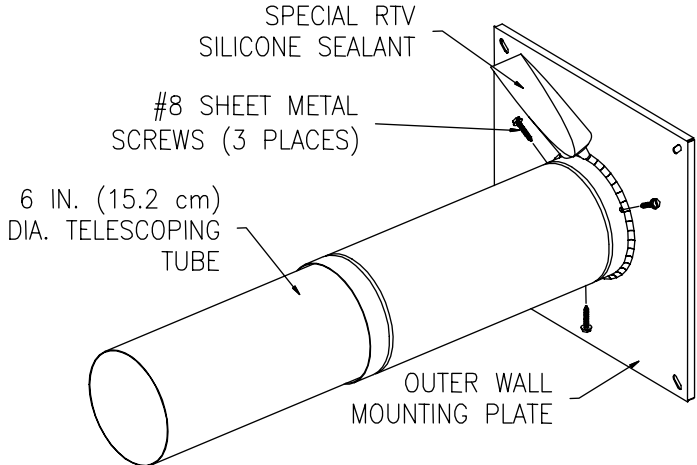

Figure 12.
- 8. Extend the six (6) inch (15.2 cm) diameter telescoping tube to its maximum length. Place the large end of the six (6) inch (15.2 cm) diameter telescoping tube over the collar on the outer wall mounting plate. Drill three (3) 1/8 inch (3.2 mm) diameter holes, 120° apart, through the six (6) inch (15.2 cm) diameter telescoping tube into the collar on the outer wall mounting plate. Fasten with three (3) #8 sheet metal screws (supplied). Using the supplied special RTV silicone sealant, apply a sufficient amount to seal the joint (See Figure 12).